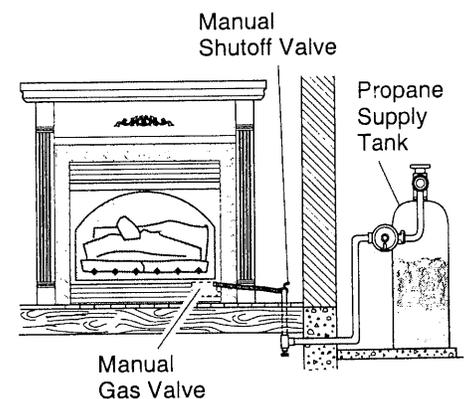

Figure 34 - Checking Gas Joints
- Check all joints from gas meter to manual shutoff valve (see Figure 34). Apply mixture of liquid soap and water to gas joints. Bubbles forming show a leak.
- Check all joints from manual shutoff valve to thermostat gas valve (see Figure 34). Apply mixture of liquid soap and water to gas joints. Bubbles forming show a leak.